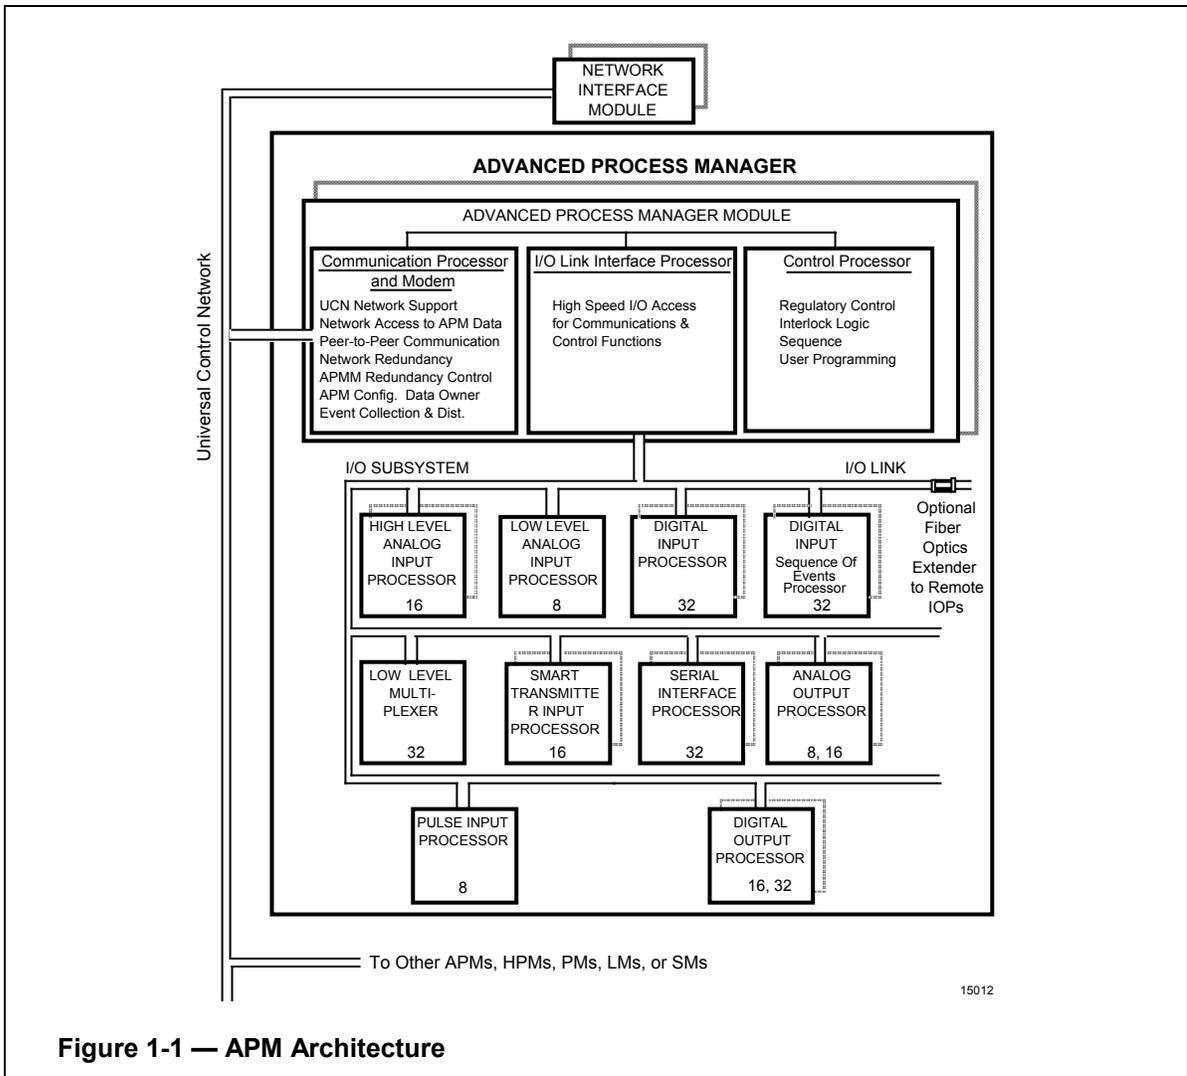

Figure 1-1 — APM Architecture
The Advanced Process Manager (APM) is designed to provide flexible and powerful process scanning and control capabilities. To do this, it uses a powerful multiprocessor architecture with separate microprocessors dedicated to perform specific tasks. As depicted in Figure 1-1, the APM consists of the Advanced Process Manager Module (APMM) and the I/O Subsystem.
- Serial Device Interface (16 points), (not shown in Figure 1-1)